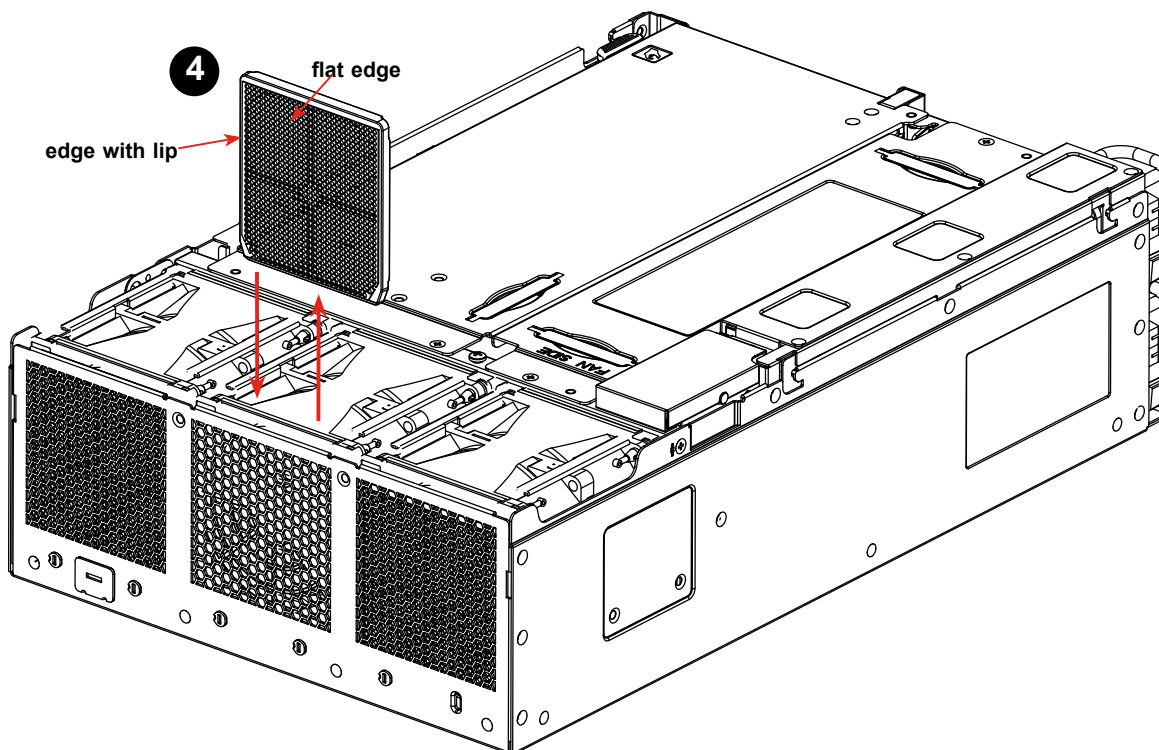

Figure 2-16. Installing or Replacing the Fan Filters
3. Mark two keyhole spots on the surface where the server will be mounted. The two keyholes for each orientation are circled in red. See Figure 2-16.
6. Install screws or nails in all the holes circled in blue. See Figure 2-16.